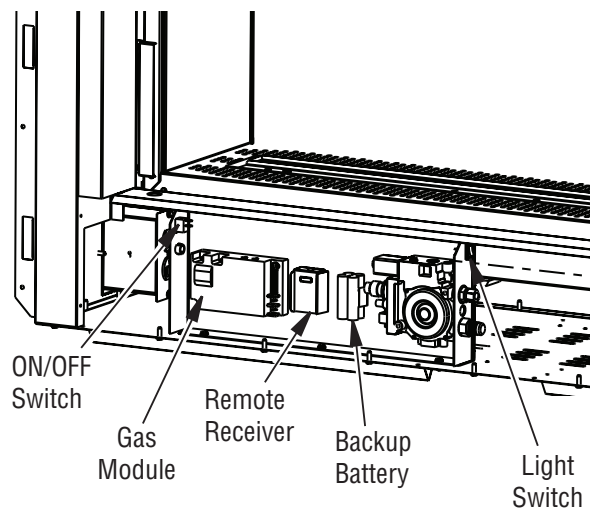

Figure 24 - Control Module (Face Bottom not shown for Clarity)
4. The control module is located on the left as shown in Figure 24.
5. Light switch is located on the right hand side as shown in Figure 24.
6. ON/OFF switch is located on the left hand side as shown in Figure 24.